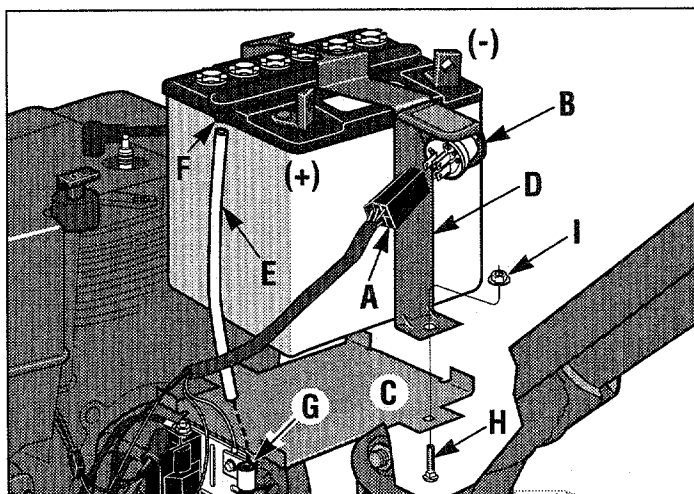

Figure 2-18: Battery mounting and venting assembly.
1. Before installing the battery and its hold-down clamp, insert the plastic wire harness receptacle (A, Figure 2-18) into the prongs of the keyswitch (B) located on the hold-down clamp.
1. Carefully place the activated battery back on the battery mounting platform (C, Figure 2-18). Face the side of the battery with the terminals posts and the
2. Place the battery hold-down clamp (D, Figure 2-18) over the battery. Use two screws (H) and whiz nuts (I) to secure the two legs to the platform (C). Insert the screws up from the bottom. Tighten the hardware but do not overtighten. (The clamp tabs will bend if screws are overtightened.)
3. To install the vent tube (E, Figure 2-18), slide one end of the tube over the vent fitting (F). Uncoil the tube and slide the other end down into the black vent tube shield (G).